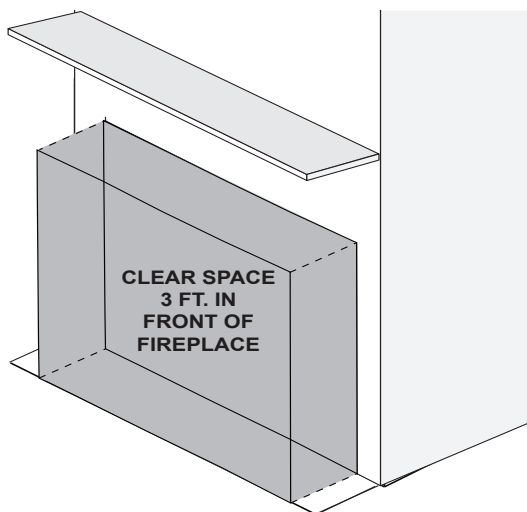

Figure 3.1. Clear Space Requirements
**WARNING! DO NOT place combustible objects in front of the fireplace.** High temperatures could start a fire. See Figure 3.1 Avoid placing candles and other heat-sensitive objects on mantel or hearth. Heat could damage these objects.